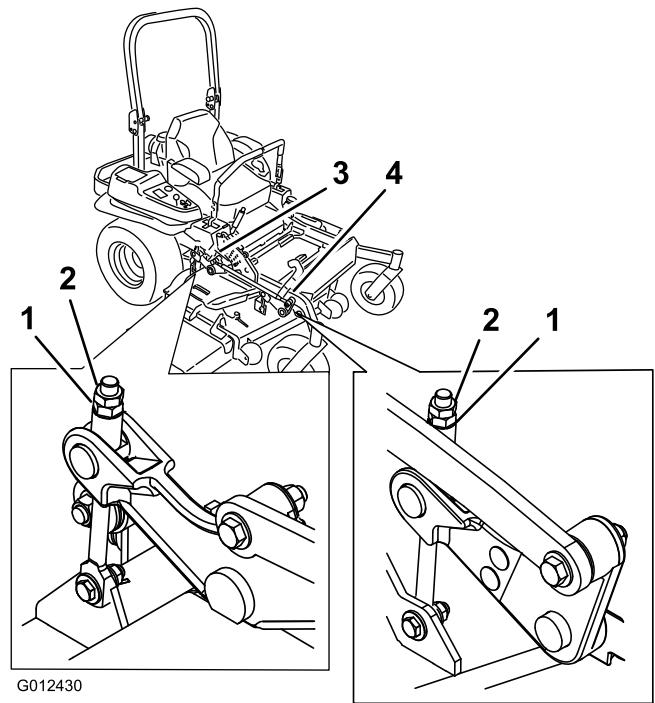

Figure 87
- 10. Fine-tune the adjustment nut on the front deck lift assembly by turning it (Figure 87).
16. Fine-tune the adjustment nut on the front deck lift assembly by turning it (Figure 87). To increase the height, turn the adjustment nut clockwise; to decrease, turn counterclockwise.